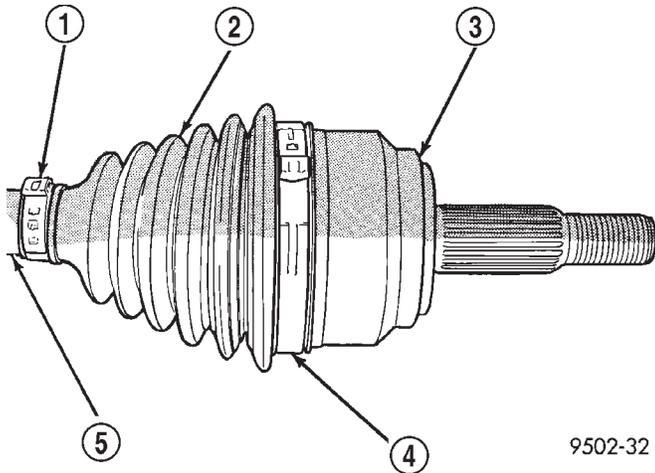

Fig. 36 Outer C/V Joint Seal Boot Clamps
(2) Remove large boot clamp retaining C/V joint sealing boot to C/V joint housing (Fig. 36) and discard. Remove small clamp that retains outer C/V joint sealing boot to interconnecting shaft and discard. Remove sealing boot from outer C/V joint housing and slide it down interconnecting shaft.